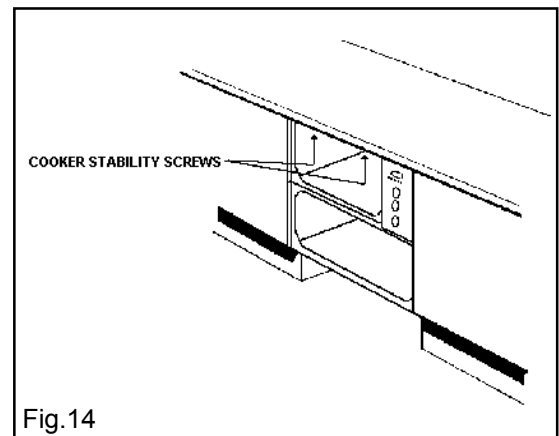

Fig.14
- When the appliance is fully housed, screw the stability screws (supplied with the appliance) into the underside of the worksurface in the positions indicated (see Fig. 14), taking care not to distort the trim. It is advisable to turn each screw alternatively to avoid damaging the trim.